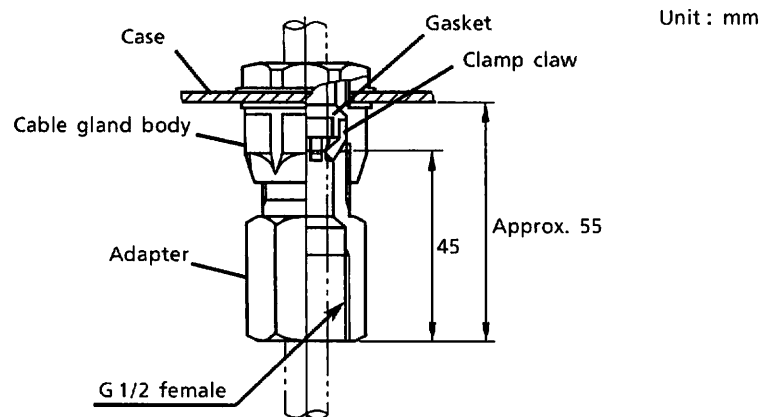

Figure 3.8 Conduit Connecting Adapter
If a cable is protected with a conduit, use an adapter (5 sets are supplied when the option code "AFTG" is specified). Remove the cable glands from the A, (B), D, E, and F ports and attach the adapters and adapter cable glands provided as accessories in place of the above cable glands as shown in Figure 3.8. No conduit work is done with sensor cable inlet port C. Use the cable gland that was attached on delivery without removing it.